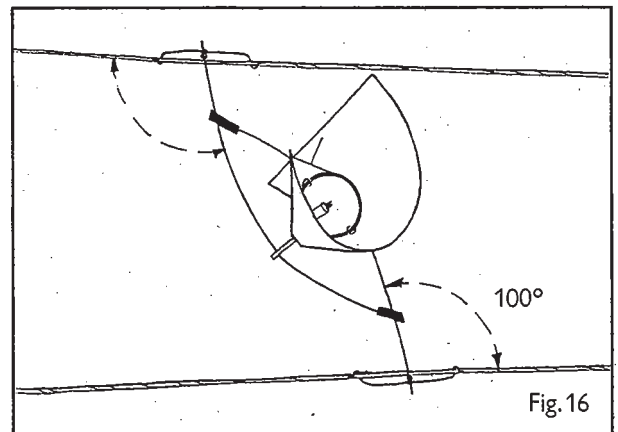

Fig. 16
1. The lighting elements (see above for assembly instructions) must be attached to the lower cable and one of the two upper cables. Attach the element to the cables in the manner shown in Fig. 16, i.e. so that the ends of the wire hangers are at a roughly 100° angle to the cables and the retaining springs are approximately parallel with the cables. Otherwise you will not be able to fit the retaining springs properly onto the cables.